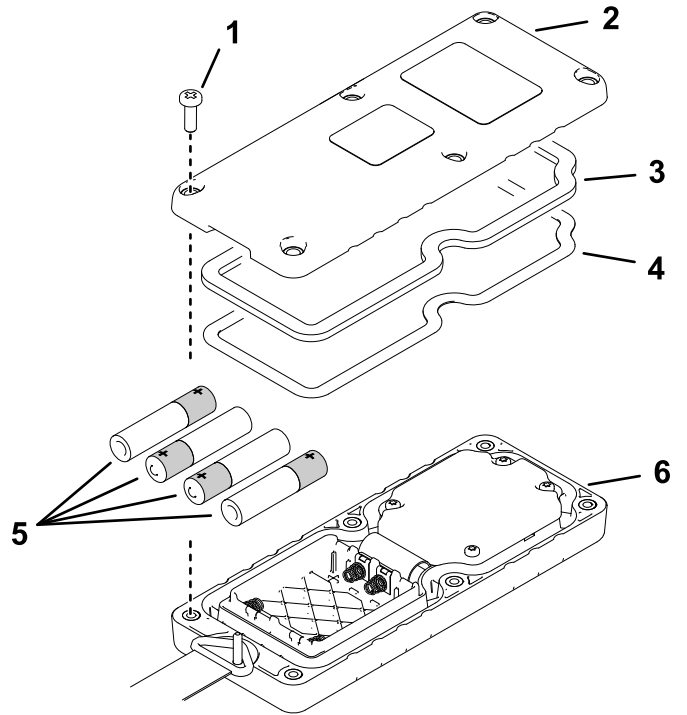

Figure 6
2. Plug each battery into a terminal cradle observing proper polarity (Figure 6).